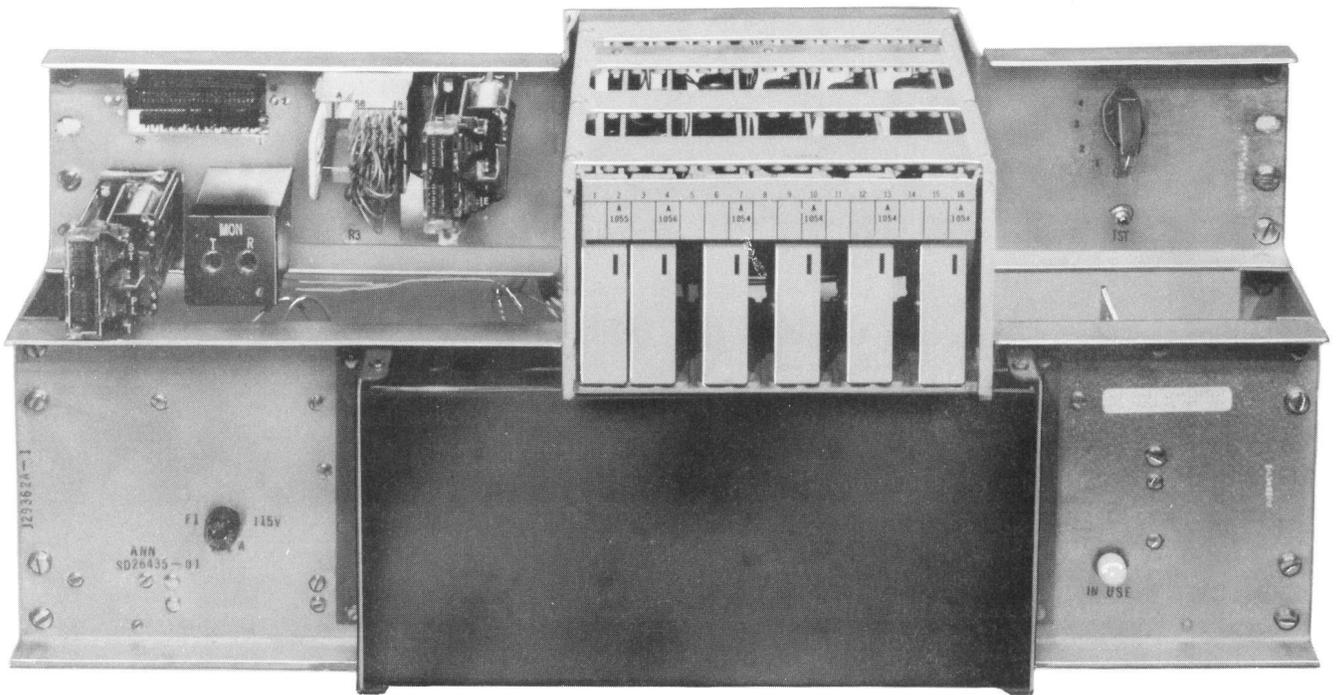

Fig. 1—12A Announcement System (Front Door Closed)
**1.03** The 12A Announcement System shown in Fig. 1, provides one to four different recorded announcements simultaneously or individually. Each announcement can serve up to 100 lines at the same time with a minimum length of 10 seconds. This announcement unit can now be ordered to include recording features or existing units may be retrofitted to add the recording features. The figure references in this section do not show the 12A announcement unit with the recording features included.